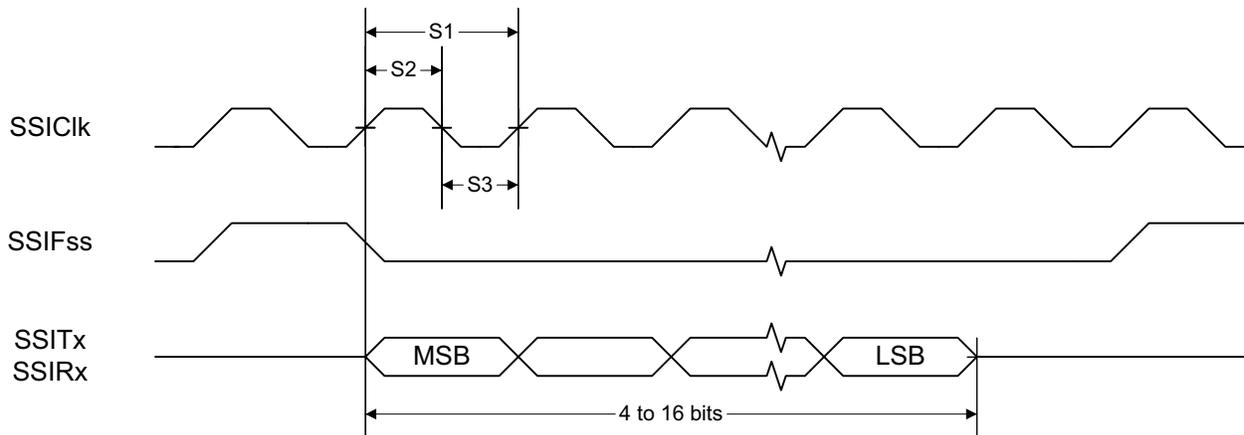
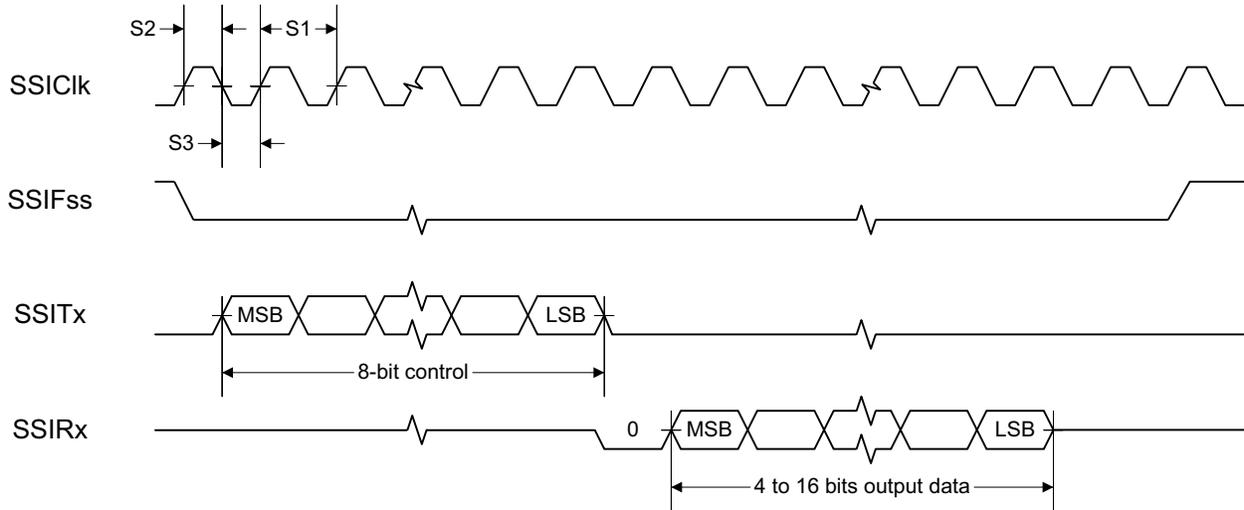
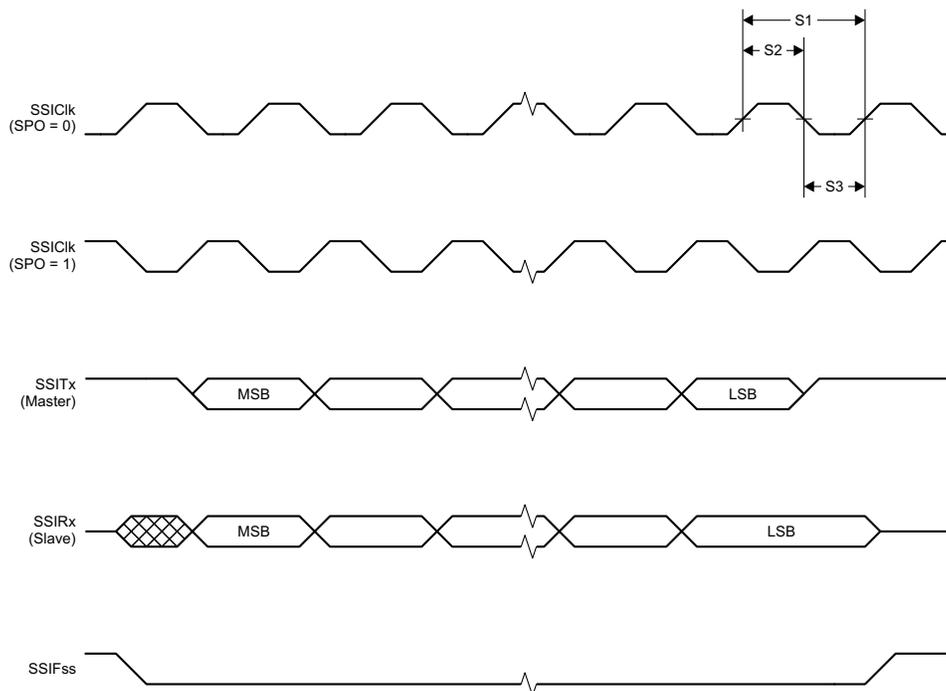

Figure 7-1. SSI Timing for TI Frame Format (FRF = 01), Single Transfer Timing Measurement
Figure 7-2. SSI Timing for MICROWIRE Frame Format (FRF = 10), Single Transfer
Figure 7-3. SSI Timing for SPI Frame Format (FRF = 00), With SPH = 1
- Refer to SSI timing diagrams Figure 7-1, Figure 7-2 and Figure 7-3.